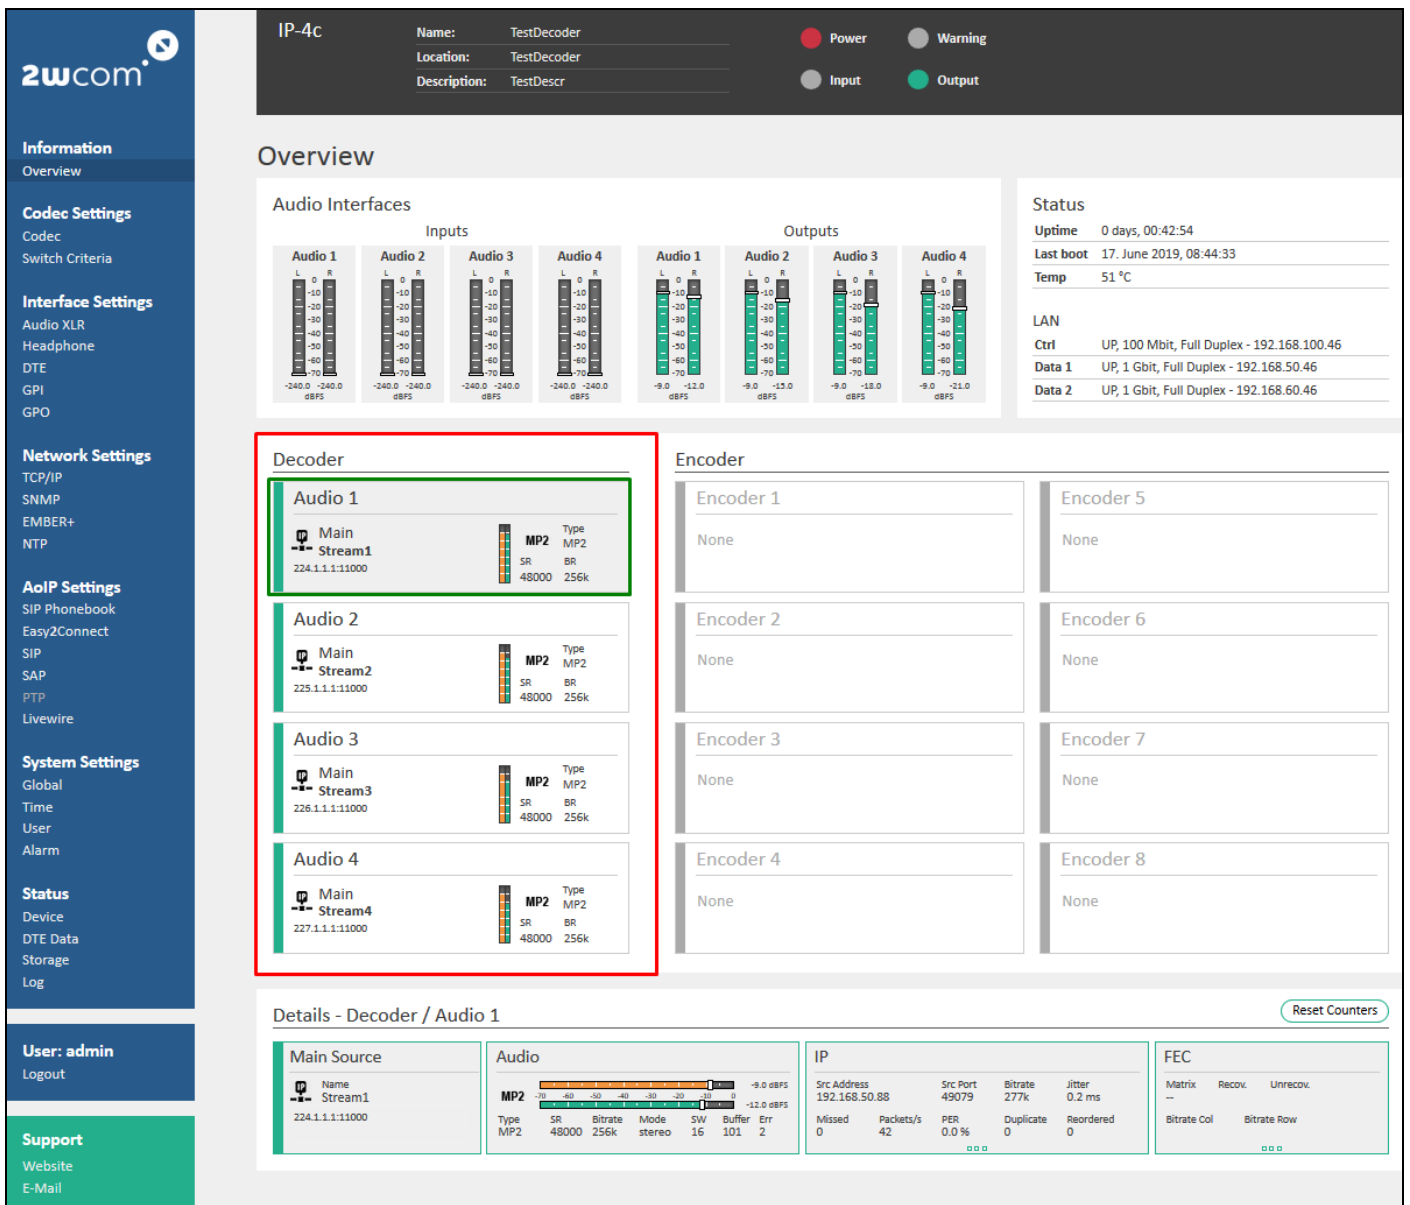

Figure 51: System Information – Decoder State
- ⇒ The current levels of the output gain are displayed on the display of the unit and in the user web interface under **Information→Overview** in the field “Audio Interfaces” (see Figure 51 on page 70).
1. Under **Information**→**Overview** you can see the details of the configured parameters of the decoding signal for all audio outputs in “Decoder” field (see Figure 51, red frame).
2. To see more details about the decoder status, select one “Audio 1-4” output (e.g. “Audio 1” in Figure 51, green frame) and the active source as well as the parameters of the currently decoding signal in the selected audio output will be displayed in the field below (“Details-Decoder / Audio 1” in Figure 39, green frame).